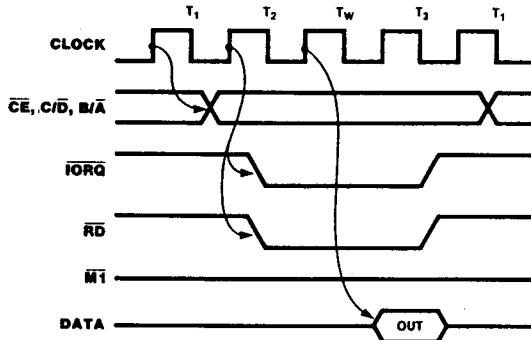

Figure 15. Read Cycle
Both channels contain registers that must be programmed via the system program prior to operation. The channel-select input (B/ $\bar{A}$ ) and the control/data (C/ $\bar{D}$ ) are the command-structure addressing controls, and are normally controlled by the CPU address bus. Figures 15 and 16 illustrate the timing relationships for programming the write registers and transferring data and status.
**Read Cycle.** The timing signals generated by a Z80 CPU input instruction to read a data or status byte from the SIO are illustrated in Figure 15.